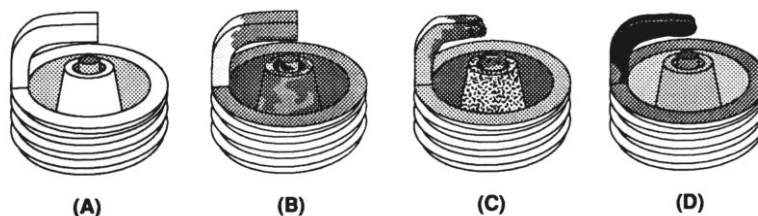

Figure 8 Spark Plug Condition
1. Perform a dynamometer pull or a full throttle pass down the racetrack. Note the power reading or vehicle mph (not e.t.). Examine the spark plugs for an indication of lean or rich nitrous/fuel conditions (refer to Figure 8 for tips on reading the spark plugs). For this application, the air/fuel mixtures at WOT tend to be very rich in stock form. You may wish to examine a plug after a NO-nitrous pass or dyno pull for comparison purposes.